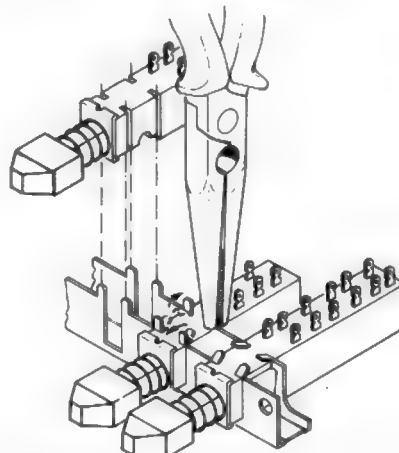

Fig. XII-1. Removing push-button switches
- 5.3. Loosen faulty switch from switch bracket by bending the four tags securing the switch to the bracket. Refer to fig. XII-1.
- 8.4. Loosen faulty switch from switch bracket by bending the four tags securing the switch to the bracket. Refer to fig. XII-1.